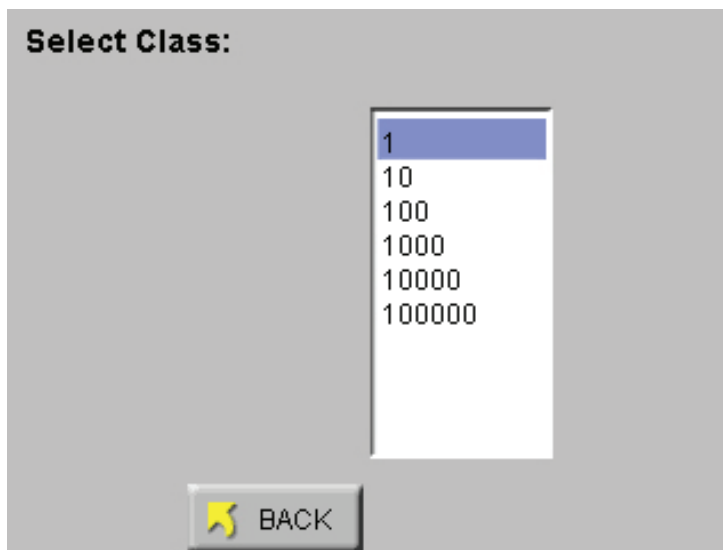

Figure 4-69 Select Class Level
- Press the CLASS button and the Select Class screen displays as shown in Figure 4-69.